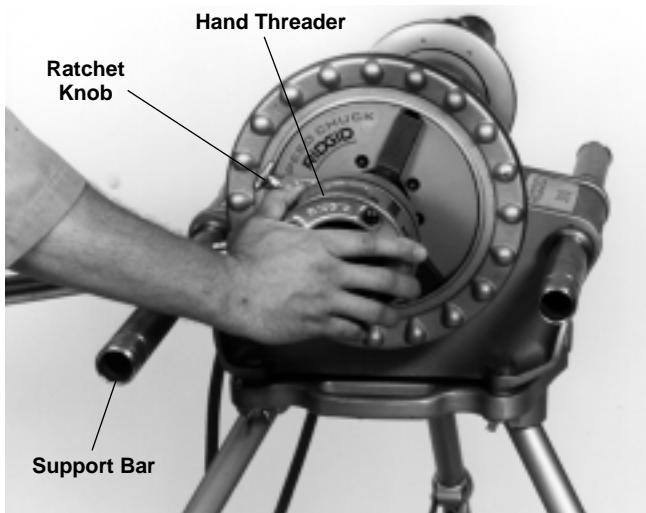

Figure 5 – Pushing Hand Threader onto Pipe to Engage Dies
1. Place threader on end of pipe with handle resting on support bar (*Figure 5*) located on switch side.
4. Step on foot switch and push threader (*Figure 5*) with right hand to engage dies.
7. Reverse threader ratchet knob (*Figure 5*).